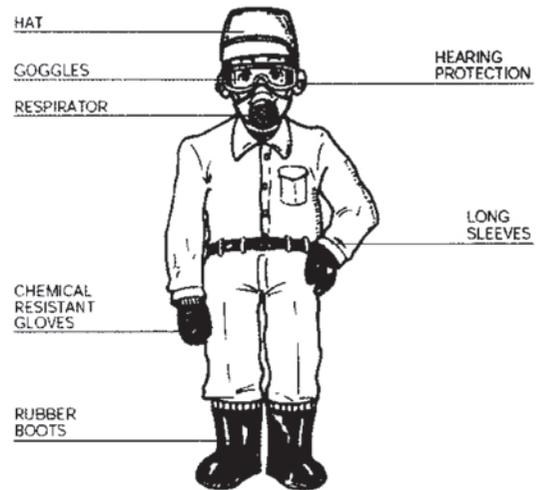

Fig 13
(1) Read this manual carefully. Be sure you understand how to operate this machine properly before you use it.
(2) Protective clothing (Fig. 13)
(3) Following personnel can not use the machine.